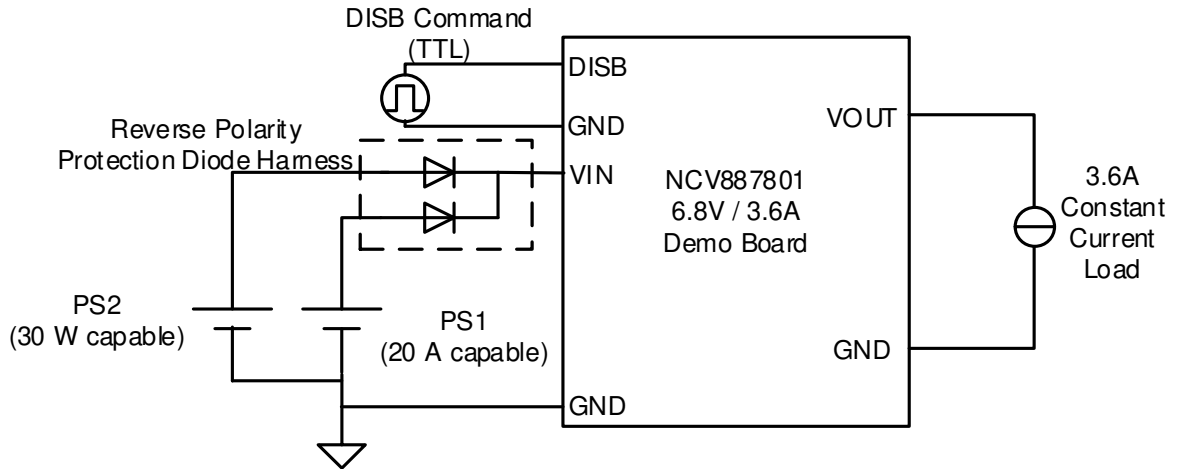

Figure 2. Demo Board Connections
The demo board is rated to operate under full load for input voltage as low as 2.6V at the input terminal under full power (less if output current is reduced). Start-Stop applications use reverse battery protection diodes in front of the boost converter (Fig. 2), so the input source can operate down to 2.6V plus a diode drop (i.e. ~3V).
1. Connect both DC1 and DC2 input power supplies as illustrated in Fig. 2. Adjust DC2 so that PCB VIN = 2.6V for a 3.6A load.